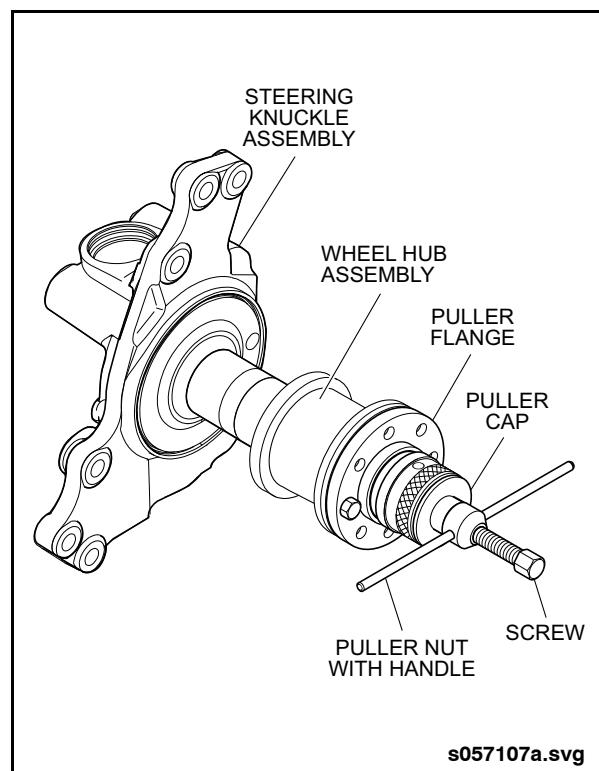

Fig. 1-17: Wheel Hub Installation
5. Install puller assembly (Items 36, 39, 40 & 41 from special tools list) onto the puller flange. See "Fig. 1-17: Wheel Hub Installation" on page 18.